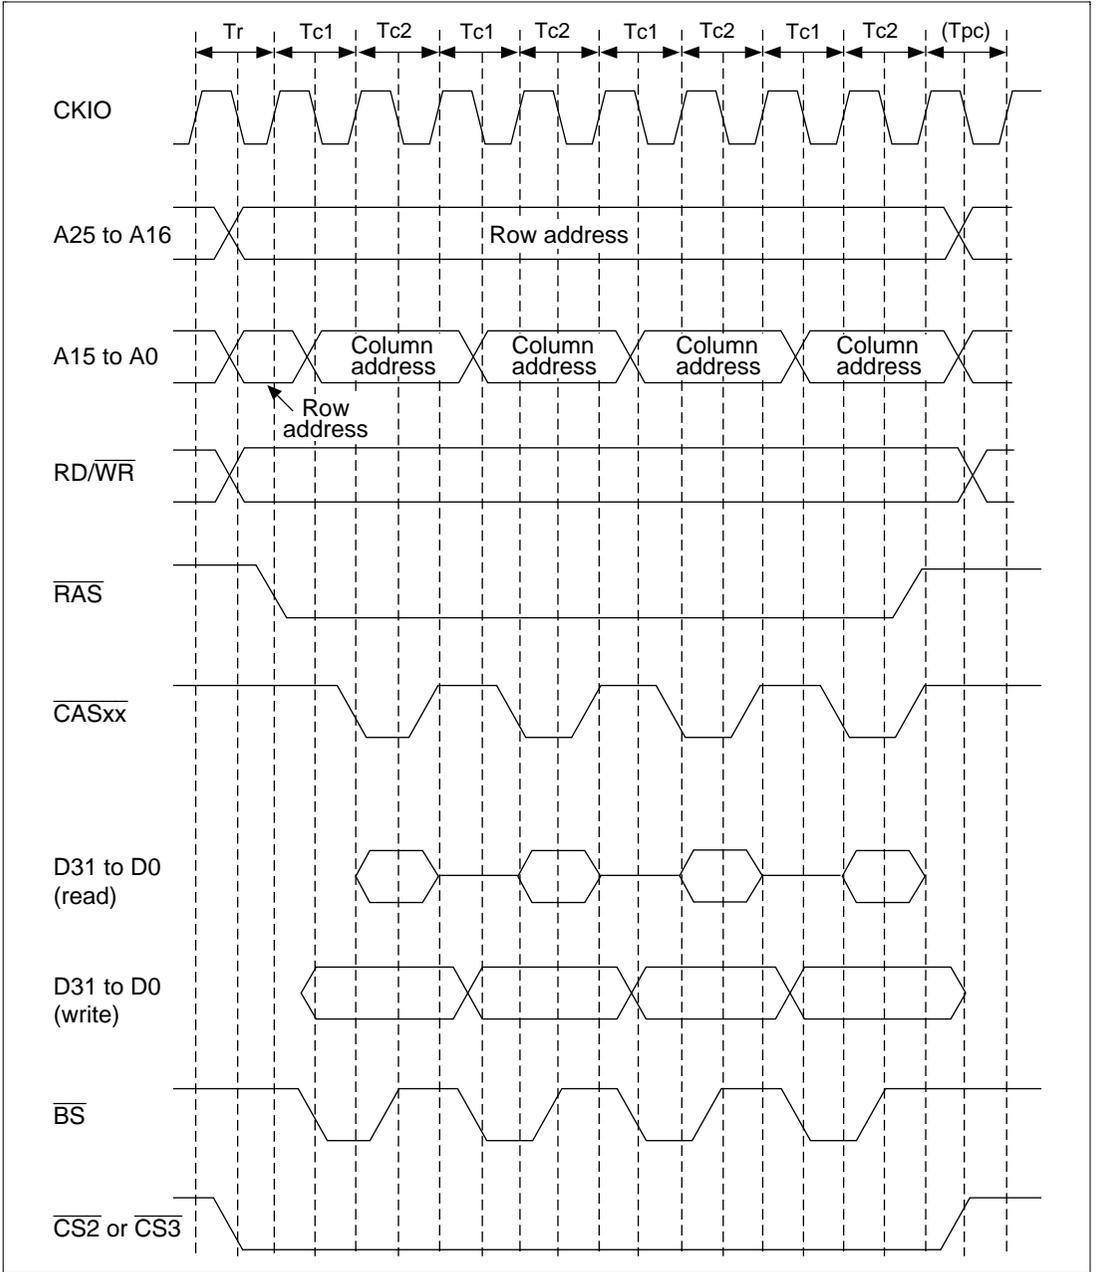

Figure 10.17 DRAM Burst Access Timing
Burst Access: In addition to the normal DRAM access mode in which a row address is output in each data access, a high-speed page mode is also provided in cases where consecutive accesses are made to the same row. This mode allows fast access to data by outputting the row address only once, then changing only the column address for each subsequent access. Normal access or burst access using high-speed page mode can be selected by means of the burst enable (BE) bit in MCR and DCR. The timing for burst access using high-speed page mode is shown in figure 10.17.